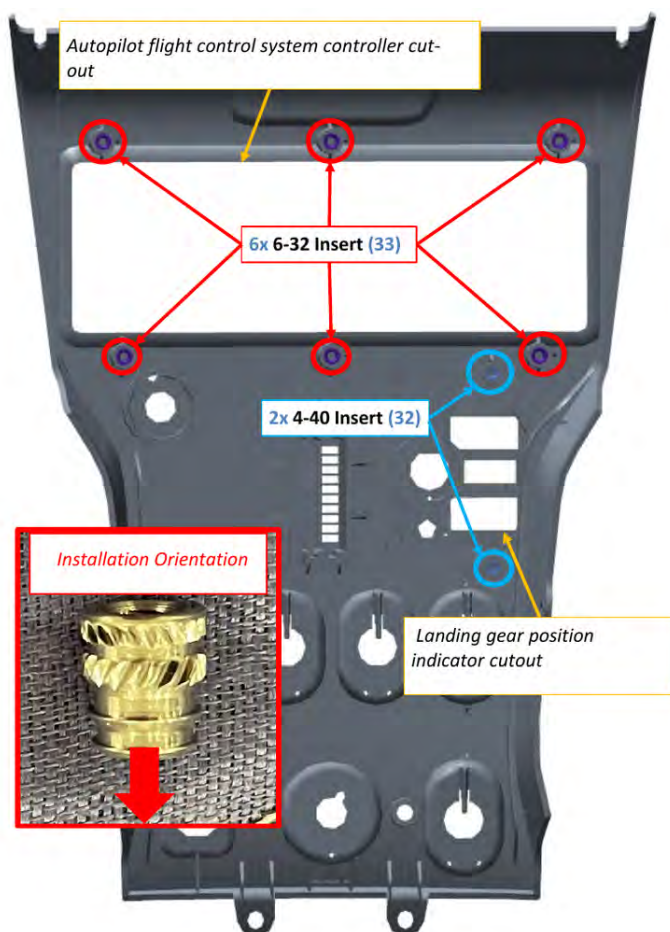

FIGURE 4-3
5. Remove threaded inserts from radio stack bezel. (See Figure 4-3.)